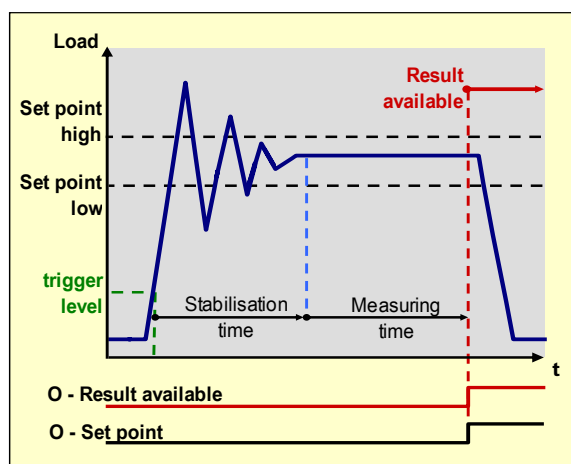

Fig. 8
- by a trigger level (Fig. 8) when the load cell signal reaches the specified value.